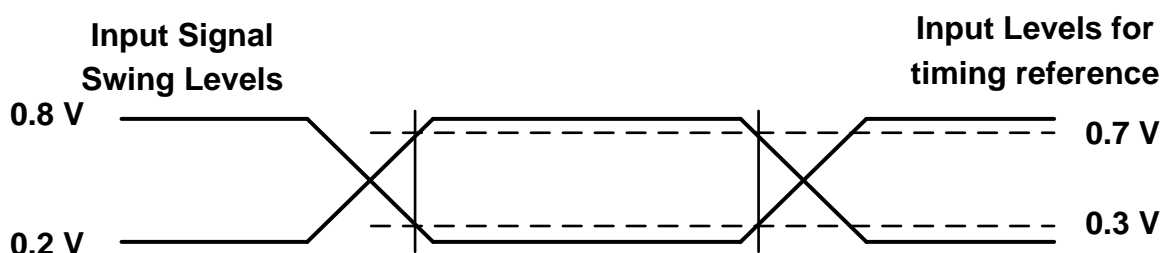

Figure 17. AC Measurement Waveform
1. This AC measurement condition (Figure 17 and Table 120) is only for the test purpose in lab.